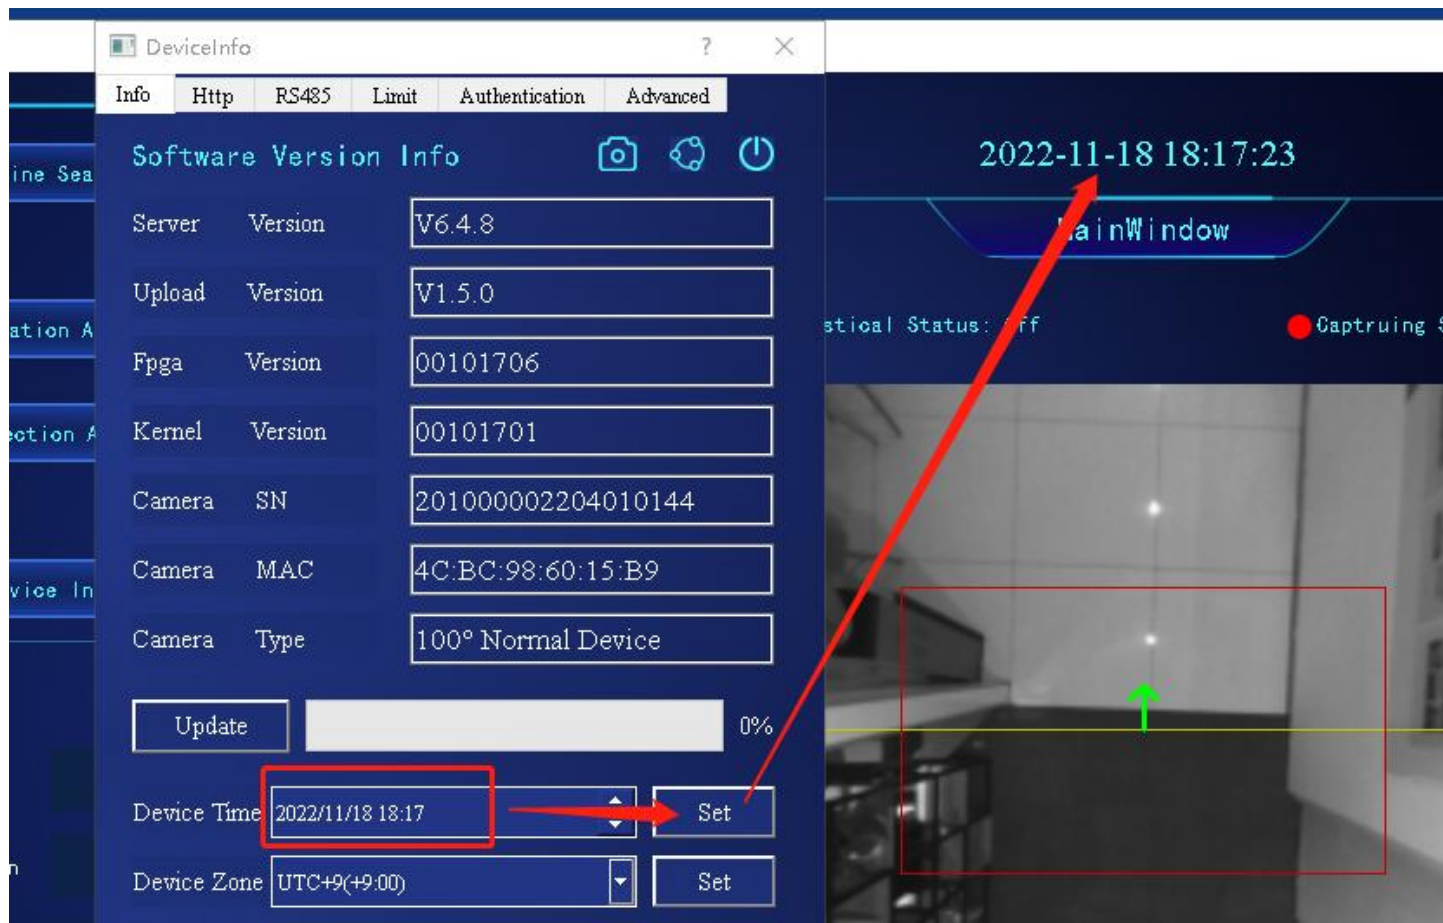

Figure 2-25 Time setting example
(1) Time setting: Enter the time to be set in the time edit box, and click the “Setting” button to complete the time setting. The new time will be displayed on the main interface, as shown in Figure 2-25. **What needs to be explained here is that the time displayed on the main interface is uploaded by the device to the software. Then the software parses the displayed time according to the time zone of the computer, regardless of the time zone of the device.**